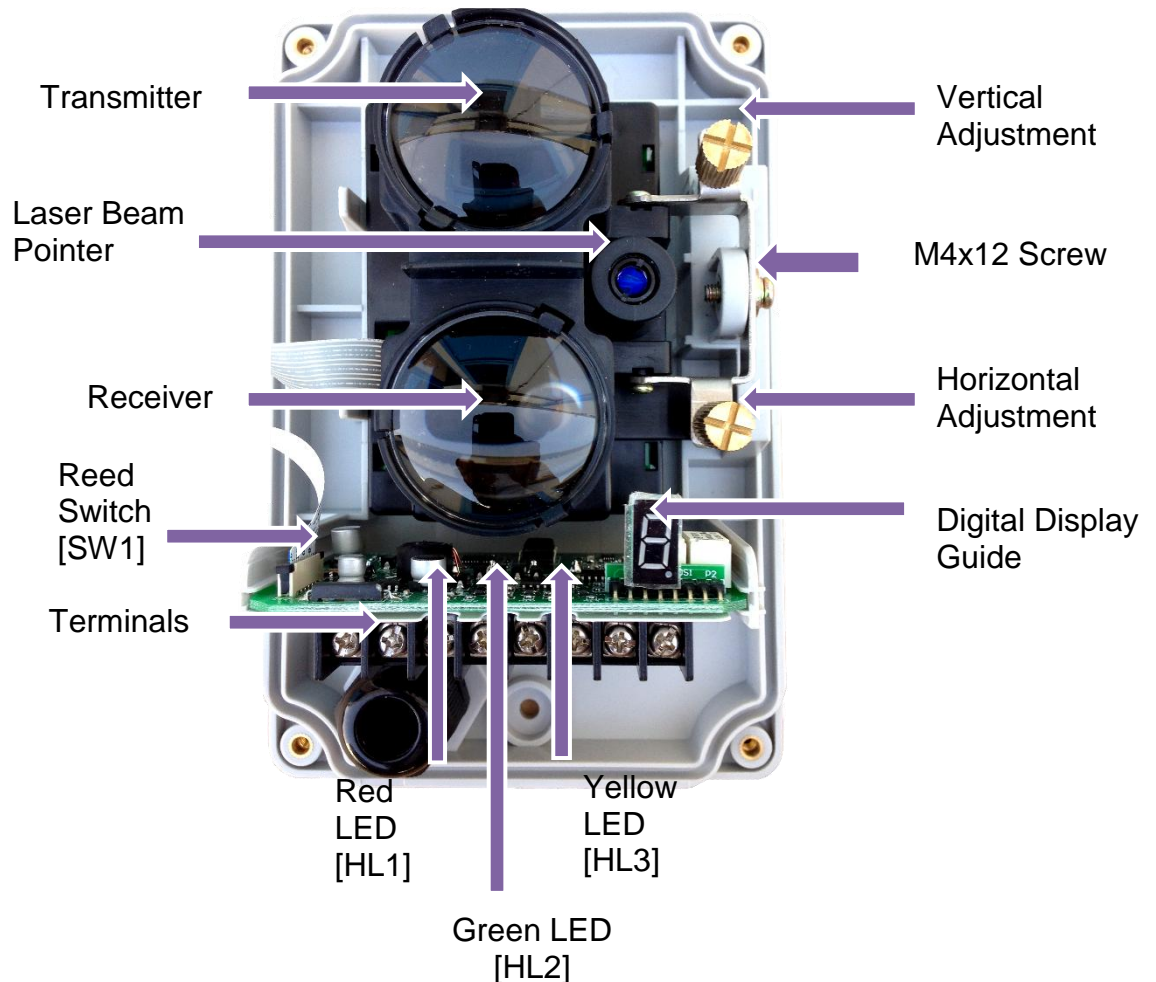

Figure 10: Detector Details
- b. Once you locate the mark, loosen the M4x12 screw and adjust the horizontal or vertical adjustment wheel until the Laser beam mark at the center of the mirror. Refer to figure 10.